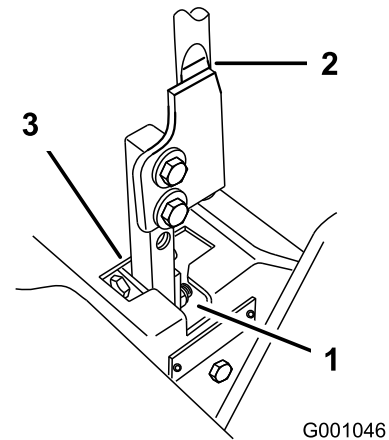

Figure 48
5. Move lever to the neutral position but not locked (Figure 48).
7. Check where the control lever is relative to the notch in the console (Figure 48). It should be centered, allowing the lever to pivot outward to the neutral lock position.